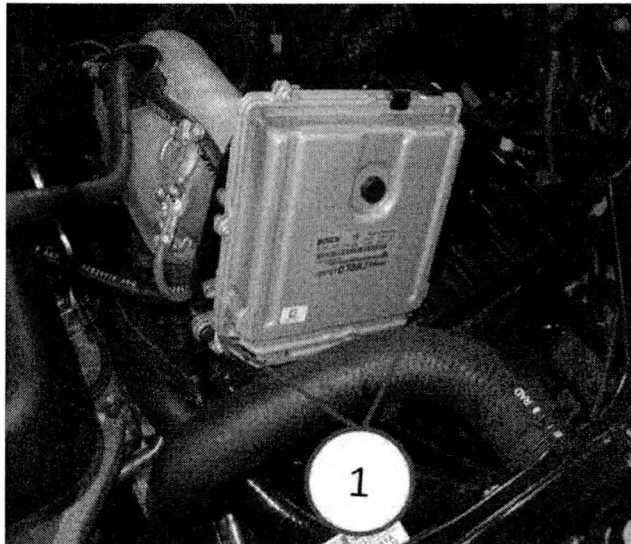

Fig. 10 Torx Screws
8. Lift and rotate the PCM assembly up to access hold down torx screws (Fig. 10).